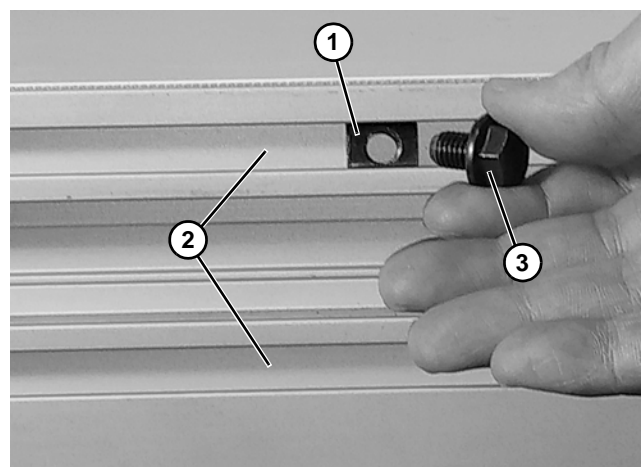

Figure 15
3. Install drop-in tee bars (Figure 15, item 1) into both T-slots (Figure 15, item 2).
4. Loosely install fasteners (Figure 15, item 3).